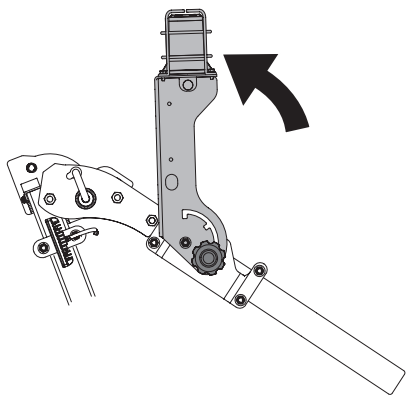
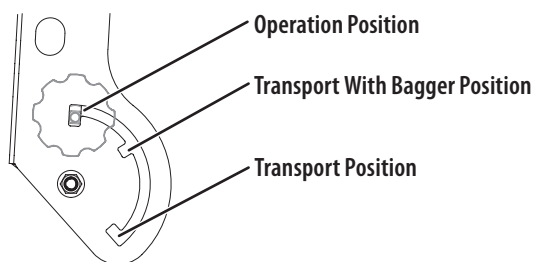

Fig. 26
Fig. 27
3. Rotate the assembly to face the beacon light straight upward (Fig. 26).
NOTE: In Fig. 26 the ROPS is shown in Transport Position. Take note of the settings used for the different beacon light positions (Fig. 27).